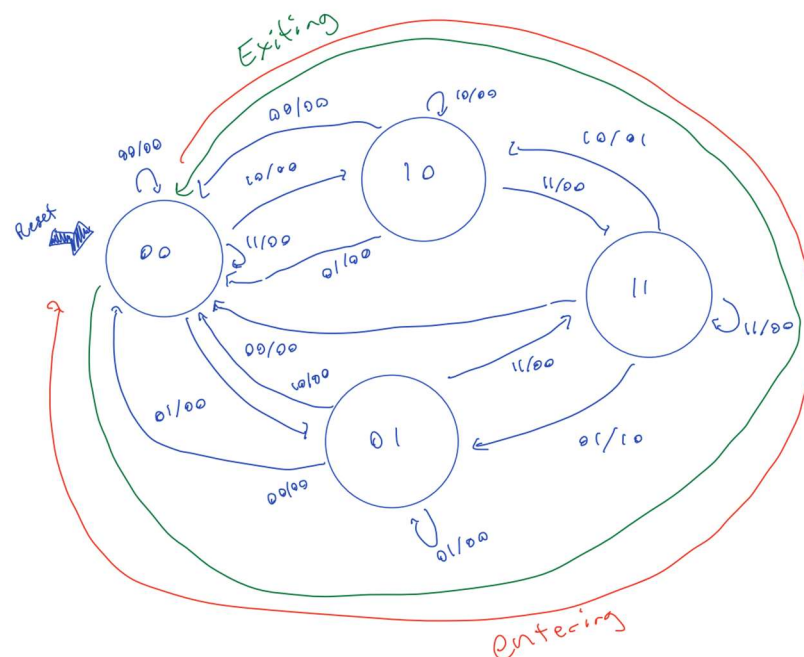
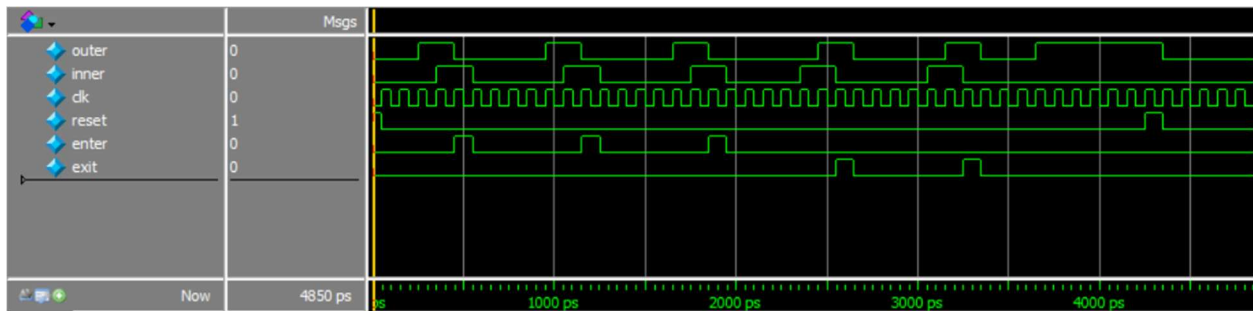

Figure 1: Car Detection FSM that keeps track of whether a car is entering the lot or not.
Figure 7: Car sensor Model Sim that shows the outputs given the inputs
Car detection has two input signals: outer and inner, in the form 00. When a car begins entering the lot, the outer signal turns on while the inner signal stays at zero (10). When the car is in the middle of the sensors, both outer and inner signals are on (11). We designed an FSM to keep track of the position of the car that has two outputs whether the car is entering the lot or exiting the lot. The way we designed the FSM in figure 1 below was to output enter or exit after the car has completed its motion through the sensors. In figure 1, when $ps == "11"$, the only way for a car to be in that state is if it has first passed through the "10" or "01" states. This is due to the fact that a car cannot go backwards once it is already in the sensors. So, when $ps == "11"$ and $ns == "01"$ we know that the car is entering the lot and exiting if $ns == "10"$. We also handled the case where a pedestrian is walking through the sensors, sending $ns == "00"$ when it tries to go from "10" to "01" or vice versa (exact module logic on Figure 2).
In Figure 7 below, we have shown the model sim for our carSensor module. Given two inputs: outer and inner, and two outputs: enter and exit, the state of the inputs determine what is outputted. First, we showed that outer was triggered first, then held while inner is also triggered. Then outer will turn off and inner will stay on for one more clock cycle. The moment outer turns off, the enter signal becomes high which properly represents the logic in our FSM from figure 1. Similarly, at time 2500ps the reverse happens, inner is triggered, then outer is also triggered while inner turns off. As soon as inner turns off, the exit signal becomes high and will stay high for only one clock cycle. This accurately corresponds to our FSM in figure 1. Lastly, we tested to see what would happen if a car enters and stays in its position for a few clock cycles, and in Figure 7, we can see that nothing will happen.